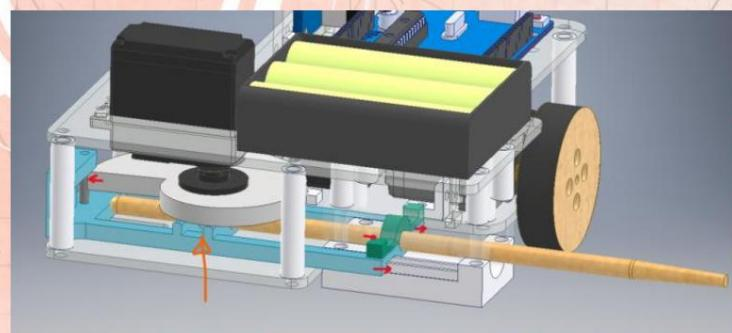

Figure 14 The firing device is supported by the upper and lower plates.
(13) Therefore, the upper and lower plates of the car body are designed to clamp the entire firing follower mechanism (Figure 14), so that...